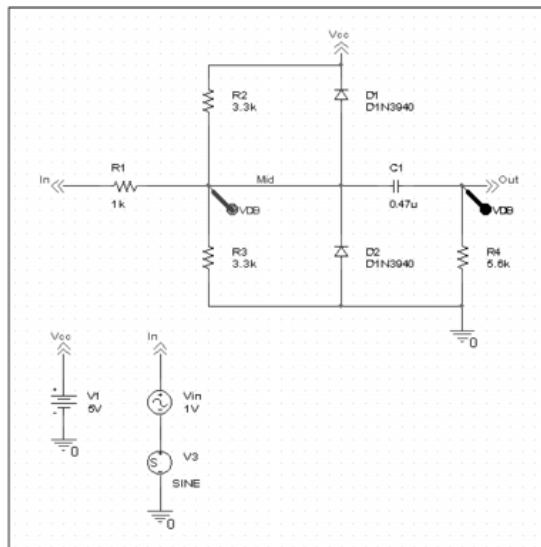

Figure 2-20 Clipper circuit with AC stimulus in capture.
In this example, you will set up the clipper circuit for AC analysis by adding an AC voltage source for a stimulus signal (see Figure 2-20 and Figure 2-21) and by setting up AC sweep parameters.
5. Place the AC voltage source on the schematic page, as shown in Figure 2-20.